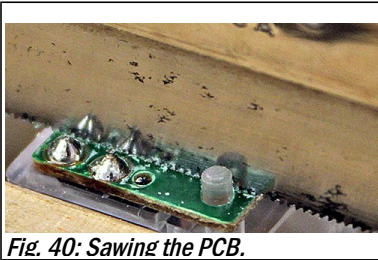
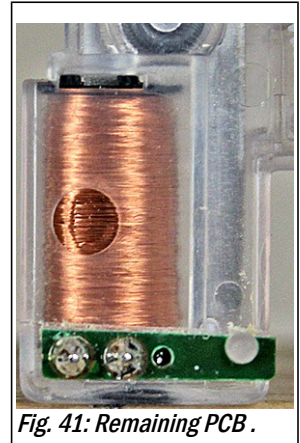

Fig. 40: Sawing the PCB.
Fig. 41: Remaining PCB.
- ☐ Use a hobby saw such as the X-Acto #34 blade (<http://www.amazon.com/Xacto-X75300-Precision-Razor-Saw/dp/B00004Z2U4>) to carefully cut through the PCB adjacent to the two motor terminals. See Fig. 40. Work slowly and carefully. Occasionally pause and lift the far end of the PCB to check if the saw has cut completely through. Fig. 41 shows the